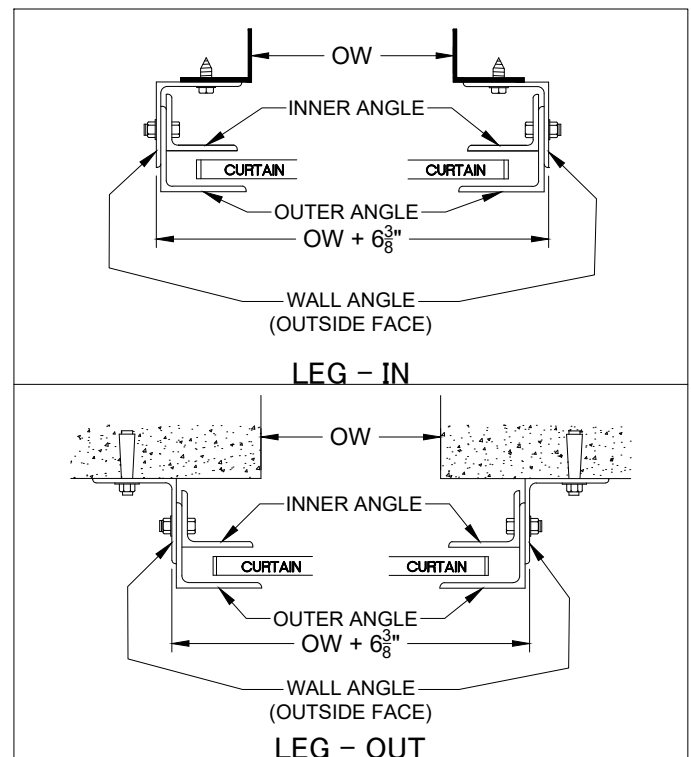

FIGURE 3
- a. Use a plumb bob, laser level, or bubble level to establish a true plumb and square reference line $3\frac{3}{16}$ " (Figure 3) on the floor outside of the opening.
- e.c. Double check that the back of the wall angles maintains $OW + 6\frac{3}{8}$ " inches apart (Figure 3), at the top, bottom, and middle.